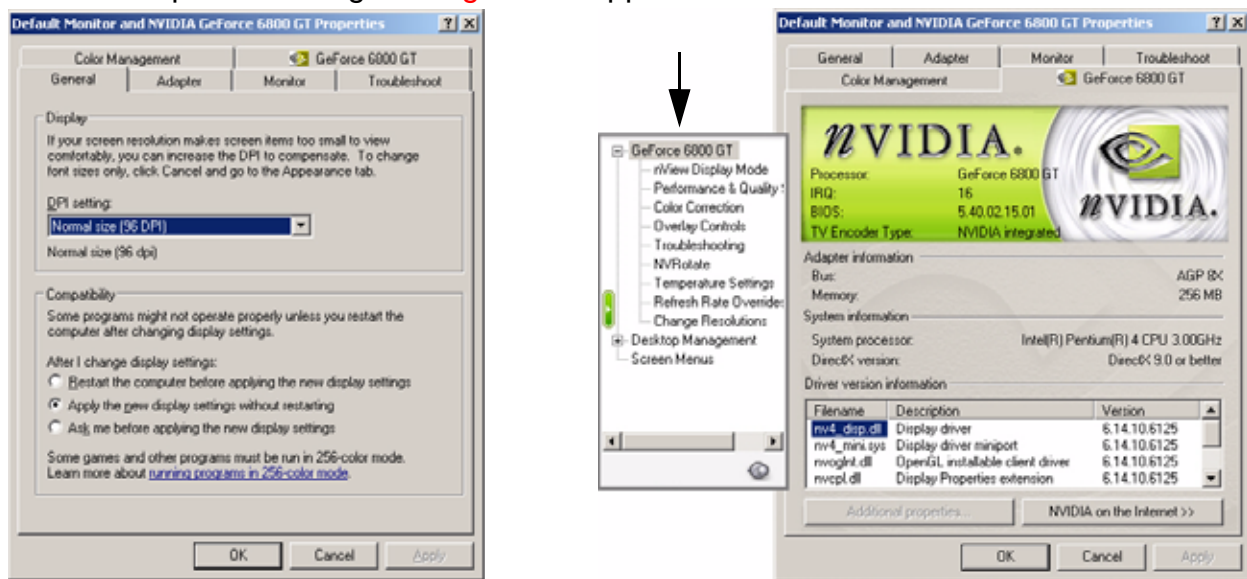

Figure 5-4. GeForce 6800 GT menu with all options displayed
- Click the **Advanced** button shown above. The menu below left appears, with the General tab selected by default. Click on the **GeForce 6800 GT** tab. The menu pictured at right in **Figure 5-4** appears.